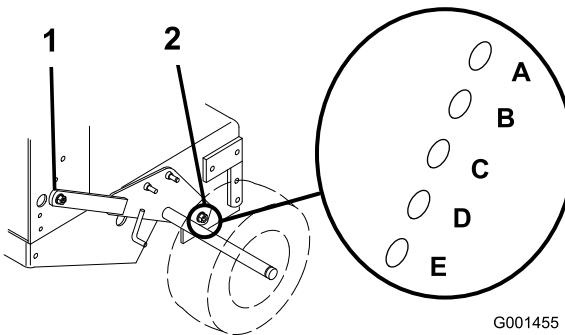

Figure 12
3. Loosen, but do not remove, the 2 axle pivot bolts and the 2 axle adjustment bolts (Figure 12).
4. Place a jack under the rear center of the engine frame. Raise the back end of the engine frame up enough to remove the front 2 axle adjustment bolts (Figure 12).
5. Raise or lower the engine frame with the jack so that you can install the front 2 axle adjustment bolts in the desired hole location (Figure 12).